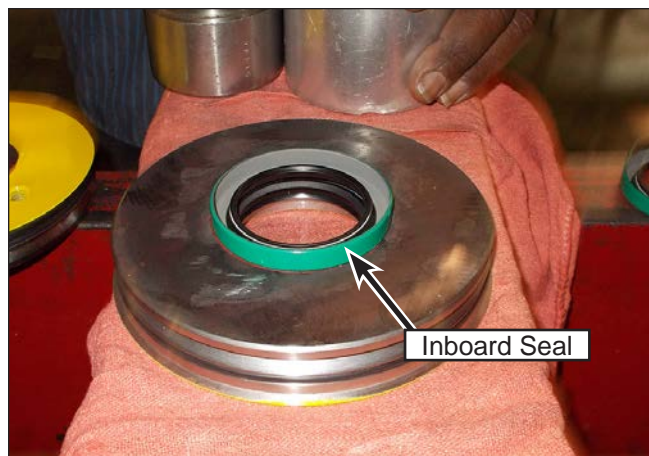

Figure 105: Inboard Seal Installation.
3. Place the green inboard seal into position on top of the outboard seal and orient the seal (Figure 105). Press the seal into the plate until it is flush with the face of the plate. Use caution to avoid damaging the seal.